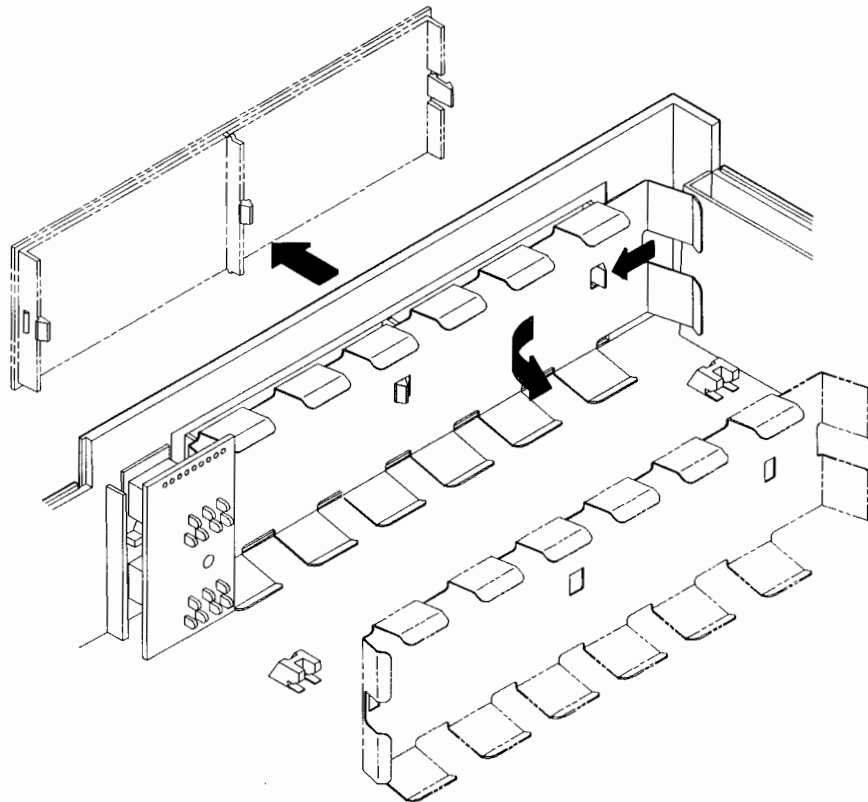

Figure B-8. Removing the Blank Cover Plate
4. Remove the blank bezel plate. Depress the snap tab on one end of the blank bezel plate to remove the metal liner. Then press on the blank bezel until it pops out of the system unit, as shown in Figure B-8. Discard the metal liner plate and the blank bezel plate.